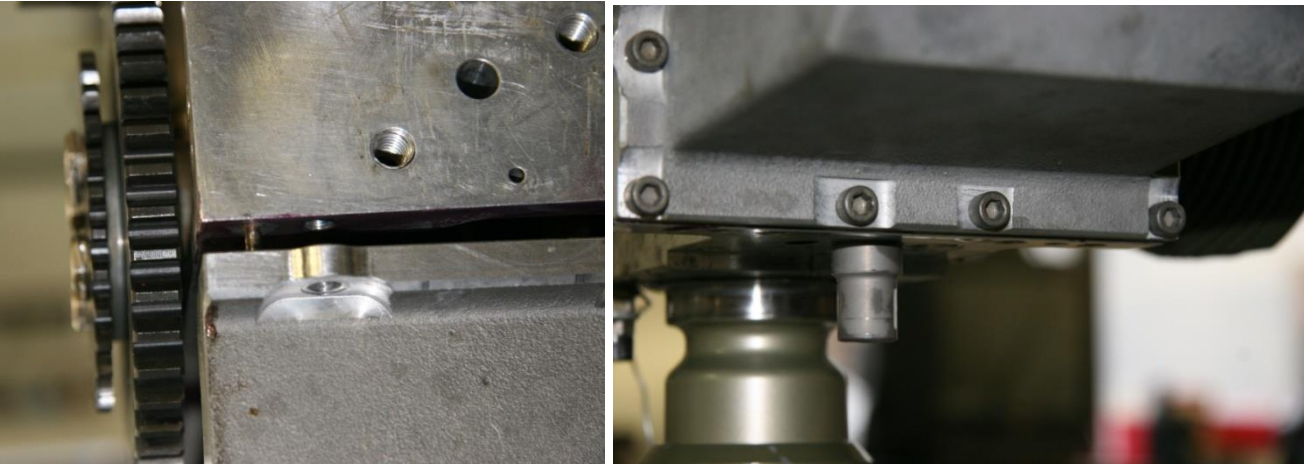

Figure 170 – Fitting Sump
- Fit the sump using cap screws and locating pins as shown in Figure 170. Note that on early engines the length of the screw which is in line with the internal oil pickup is 5/8" long compared to 3/4" for all other locations. Later sumps have a raised boss for this position allowing the longer screw to be used.